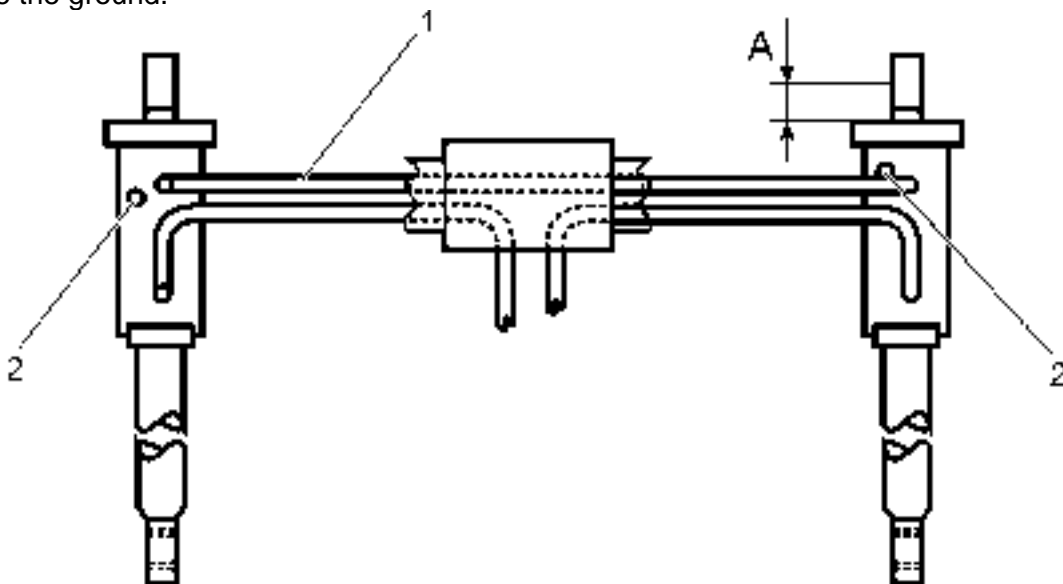

Fig. 5.39. Filling and venting the tilt cylinders.
5.15.1.2. Adjustment of Diagonal Blade with Hydraulic Tilt Cylinders (Fig. 5.39).
5.15.1.3. Filling up and Venting the Tilt Cylinders of Diagonal Blade (Fig. 5.39)